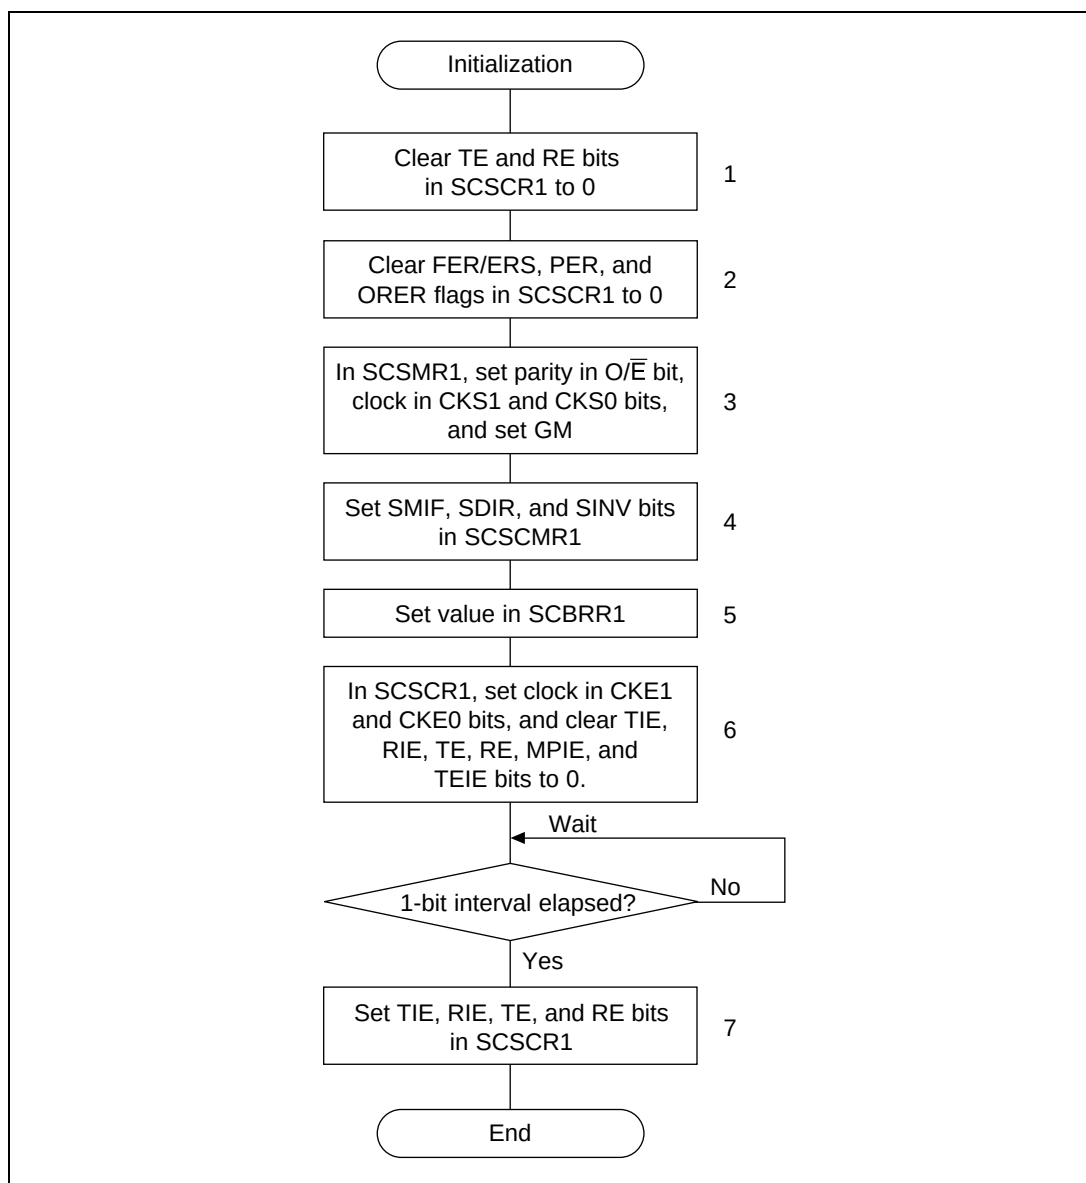

**Figure 17.7 Sample Initialization Flowchart**
**Initialization:** Before transmitting and receiving data, the smart card interface must be initialized as described below. Initialization is also necessary when switching from transmit mode to receive mode, or vice versa. Figure 17.7 shows a sample initialization processing flowchart.